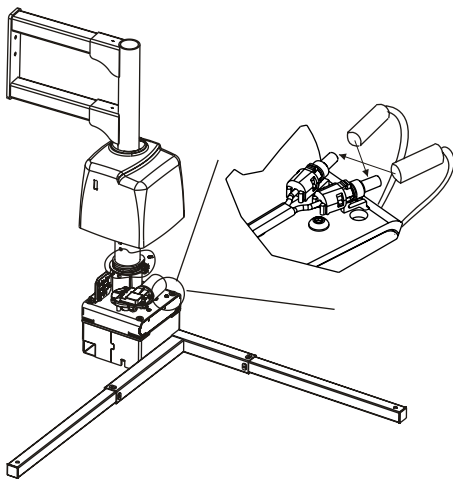
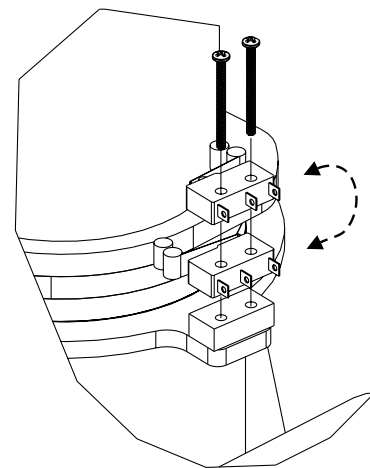

Figure 21-2
Figure 21-3
**4. Reversing Rotation:** If installing the lift on the passenger side, or the post rotates in the wrong direction, simply reverse the wires at the rotational motor. [Figure 21-2] You may also need to flip the rotation cut-off switches to properly stop the motor. [Figure 21-3]